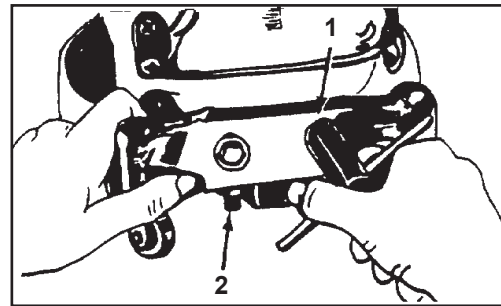

Figure 9
1. Using the special wrench, loosen the lock nut on each caster. See (1) figure 9.
2. Loosen the jam nut. See (2) figure 9.